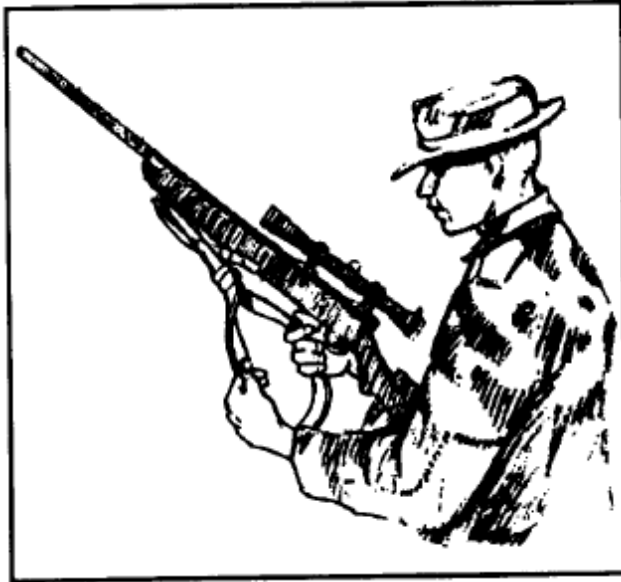

Figure 2-10. Adjusting the length of the sling.
(3) The sniper adjusts the length of the sling by placing the frog on the long strap of the sling in the 4th to the 7th set of adjustment holes on the rounded end of the long strap that goes through the sling swivel on the forearm (Figure 2-10).